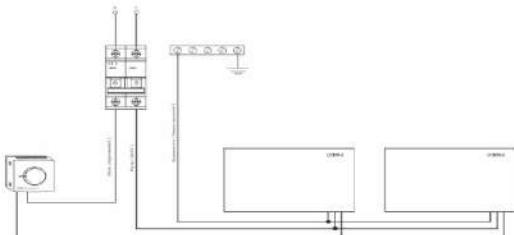

Fig. 1. Scheme of parallel connection of panels
7.1.8 Connect the wires to the thermoregulator. The wiring scheme is shown in **Fig. 1**.
7.5.4 Connect the wires to the thermoregulator. The wiring scheme is shown in *Fig. 1*.